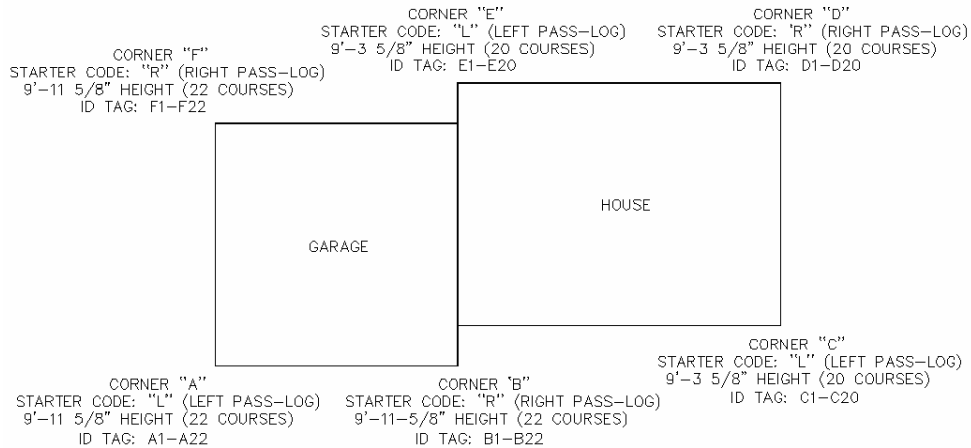
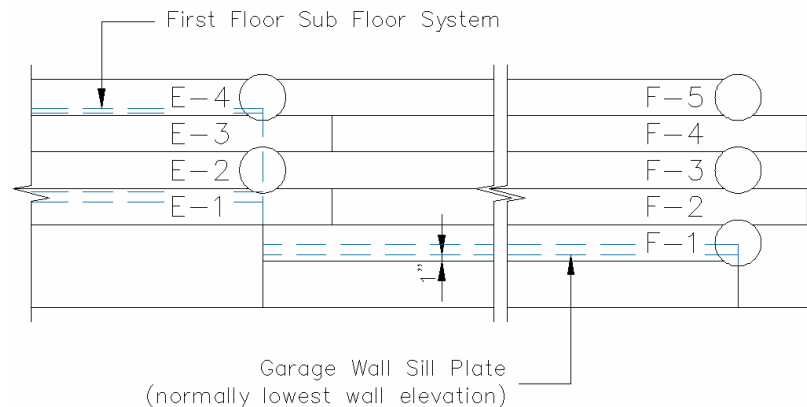

Figure 2
Figure 3
3. Once the corner layout is decided, you will need to figure out how many courses are needed per corner. This can vary from siding to siding because of the varying stack heights of each. The quantity of corner courses is figured out by measuring 1" (minimum) below the bottom of the sill plate to the highest point to where you want the Full Round Log Corners to extend. Take this height and divide it by the Stack Height (refer to Actual Height on Siding Specifications sheet) of the log siding selected to give you the number of corner courses required (see Figure 2).
Note: The log course identification number of one course may differ from another courses identification number in the same row. (Example: In corner "E" row 1 (E1) the course number in the opposite corner is corner "F" row 2 (F2) (see Figure 2). This may be true if house has a sunken floor system, attached garage, or any other reason for a change in elevation (see Figure 3).